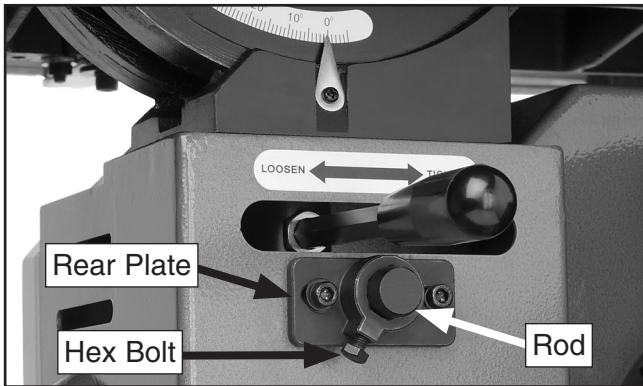

Figure 12. Rear plate and lower rod installed.
6. Insert the lateral adjustment rod through the plate, so the flat of the rod faces the hex bolt (see **Figure 12**) and the bolt faces down.